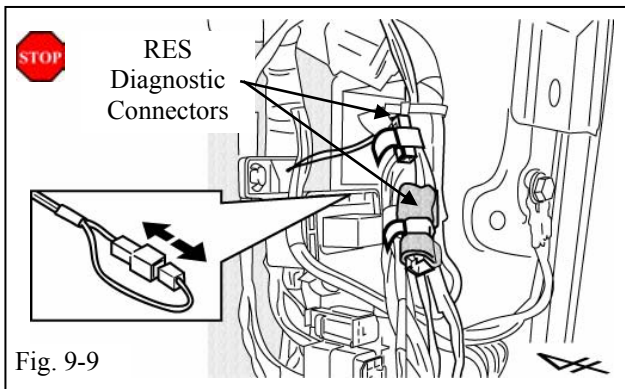

Fig. 9-9
- Disconnect the V4 Harness’s White 1P Connectors in the Passengers Side Cowl Area. (Fig. 9-9)